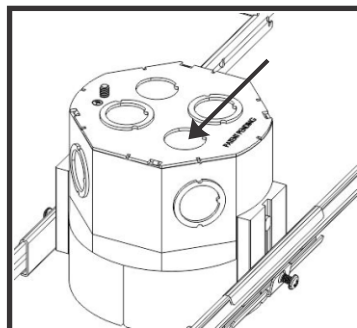

Figure 2
Step 2. Remove one of the top knockouts to be able to install the conduit fitting for the flexible conduit that includes the supply wires (Fig. 2).